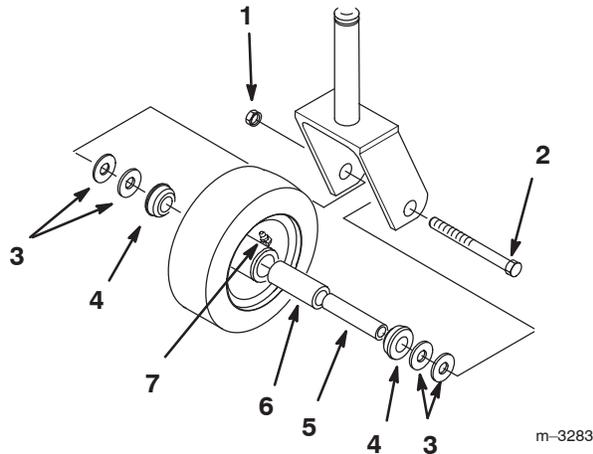

Figure 83
1. Remove the locknut and wheel bolt holding the castor wheel to the castor fork (Fig. 83).
2. Remove the washer and bushing, then pull the spanner bushing and roller bearing out of the wheel hub (Fig. 83).
3. Remove the other bushing from the wheel hub and clean any grease and dirt from the wheel hub (Fig. 83).
4. Inspect the roller bearing, bushings, spanner bushing and inside of the wheel hub for wear. Replace any defective or worn parts (Fig. 83).
5. To assemble, place one (1) bushing into the wheel hub. Grease the roller bearing and spanner bushing and slide them into the wheel hub. Place the second bushing into the wheel hub (Fig. 83).
6. Install the castor wheel into the castor fork and secure with the wheel bolt and locknut. Tighten the locknut until the spanner bushing bottoms against the inside of the castor forks (Fig. 83).